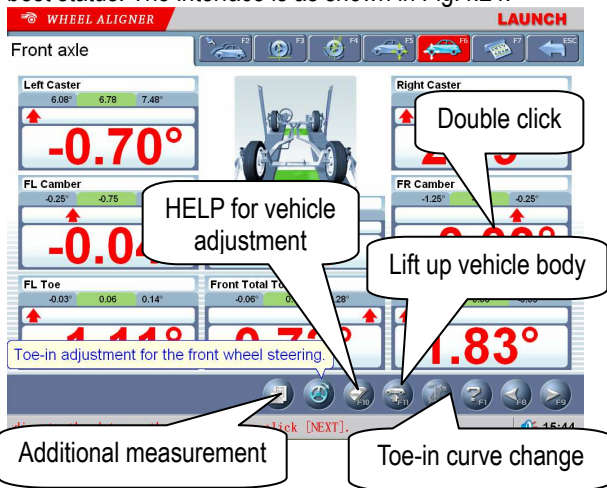
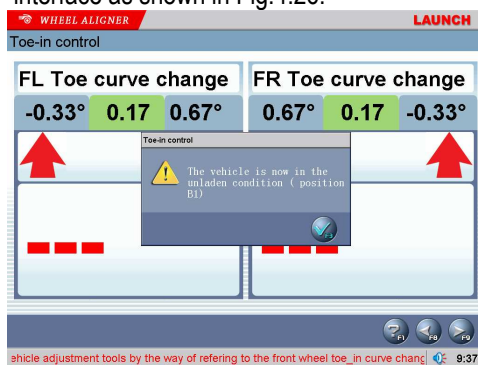

Fig.4.24
Fig.4.26
This interface can provide the real-time result related to front axle measurement, the operator can compare the measurement result with the reference data while adjusting the vehicle, until the vehicle is adjusted to the best status. The interface is as shown in Fig.4.24.
3. The vehicle is now in put-down status (position B1). Adjust the vehicle front toe-in to the allowed scope according to the standard specifications (see Fig.4.24). Put up the vehicle with the special tools equipped according to the prompts on the screen. Click [NEXT] button, the screen will display the interface as shown in Fig.4.26.